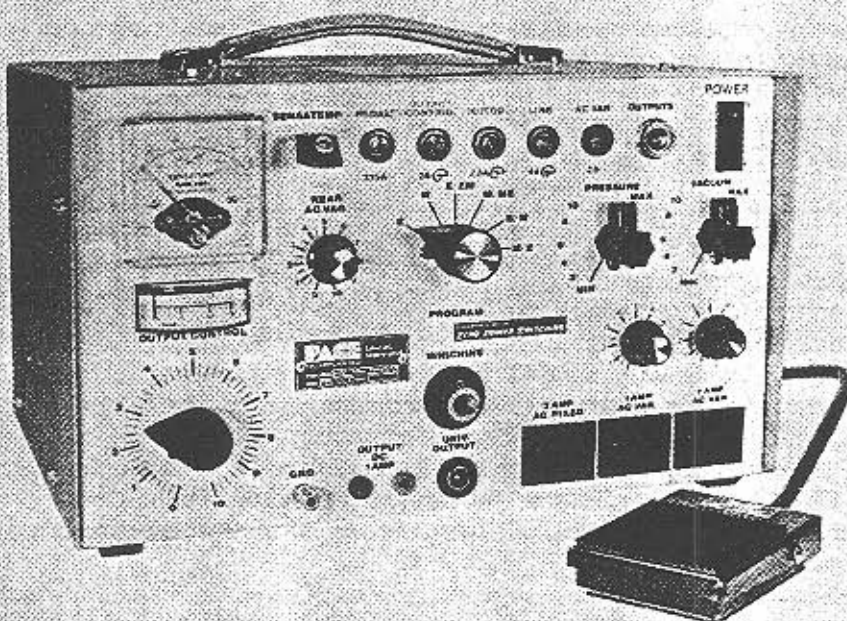

FIGURE 1B. PACE REPAIR SYSTEM PRC-350CE
- PACE Model PRC-350CE which consists of PACE Power Source PPS-200CE, Export Unit (see Figure 1B)